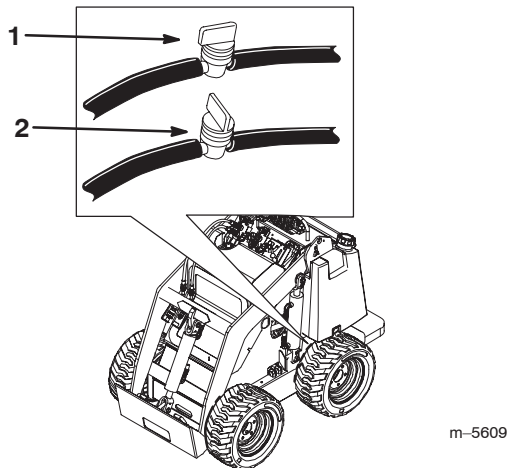

Figure 30
3. Shut off the fuel valve on the bottom of the fuel tank (Fig. 30).
8. Open the fuel valve on the bottom of the fuel tank (Fig. 30).
4. Shut off the fuel valve in the hose near the bottom of the fuel tank as illustrated in Figure 30.
9. Open the fuel valve in the hose near the bottom of the fuel tank as illustrated in Figure 30.